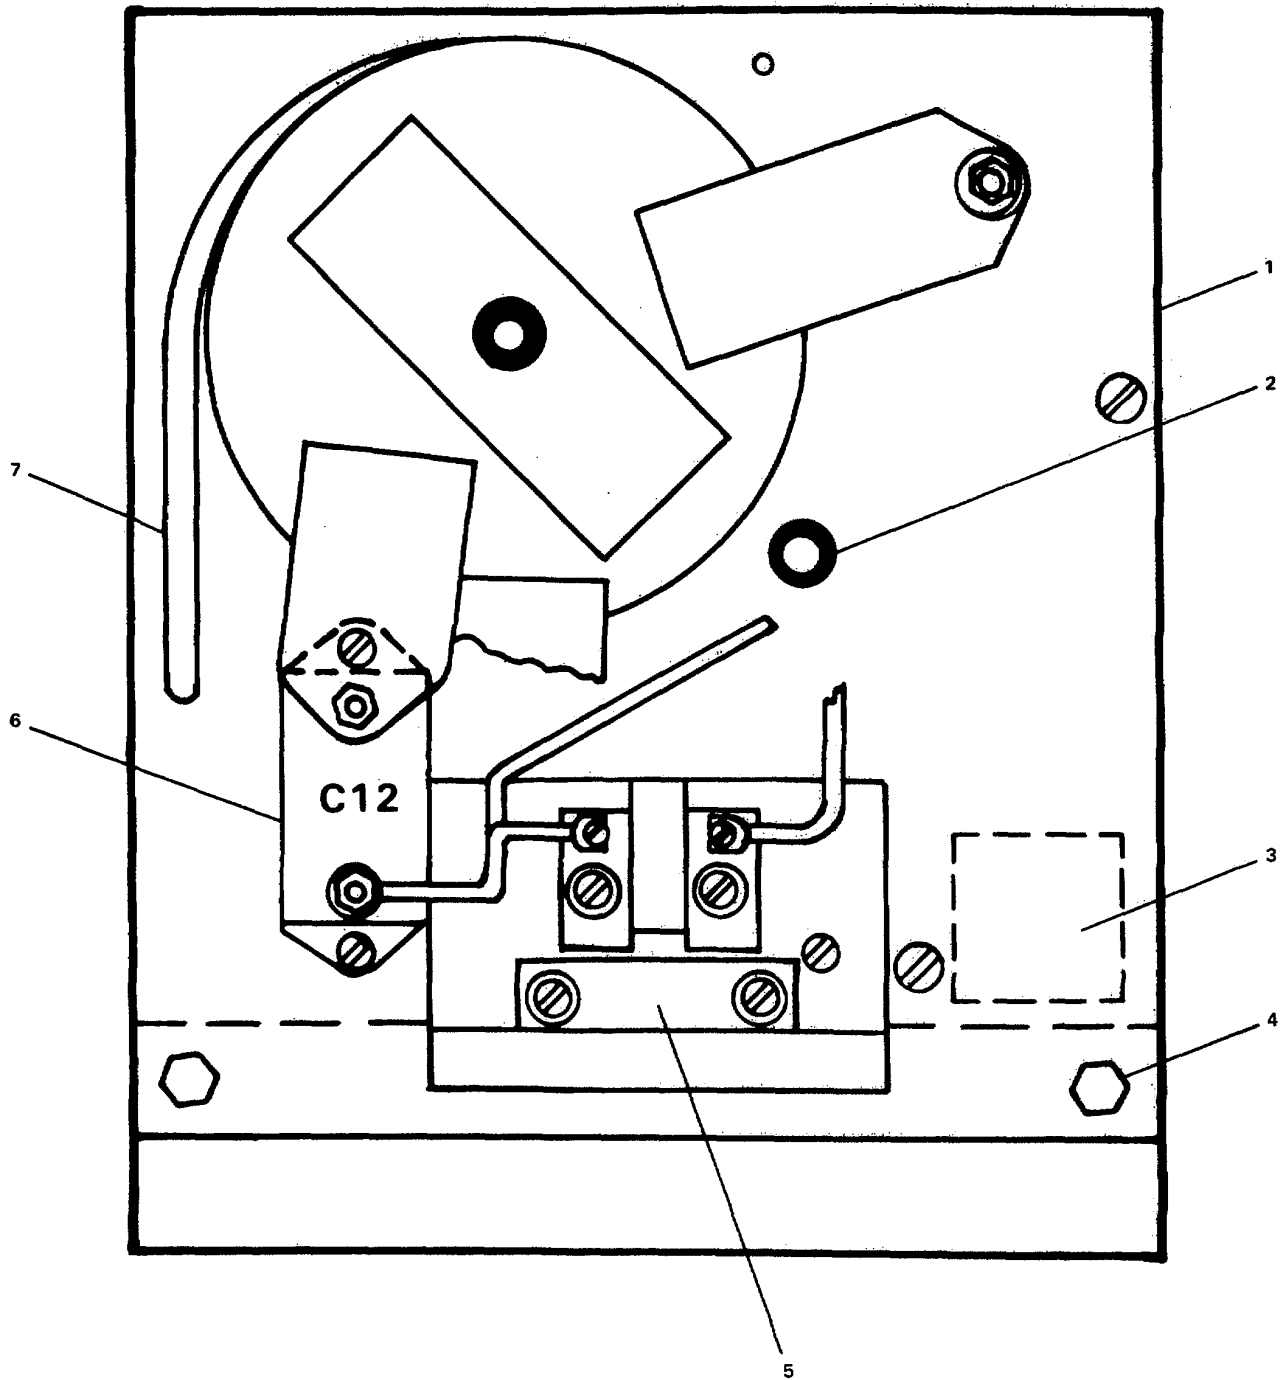

FIGURE 3-58 *Replace/Repair High Frequency Assembly.*
- a. Install spacer (9)
- c. Install spacer (12), washer (10) and hexagon nut (11).
**3-56. Replace/Repair High Frequency Assembly. (Figure 3-58)**